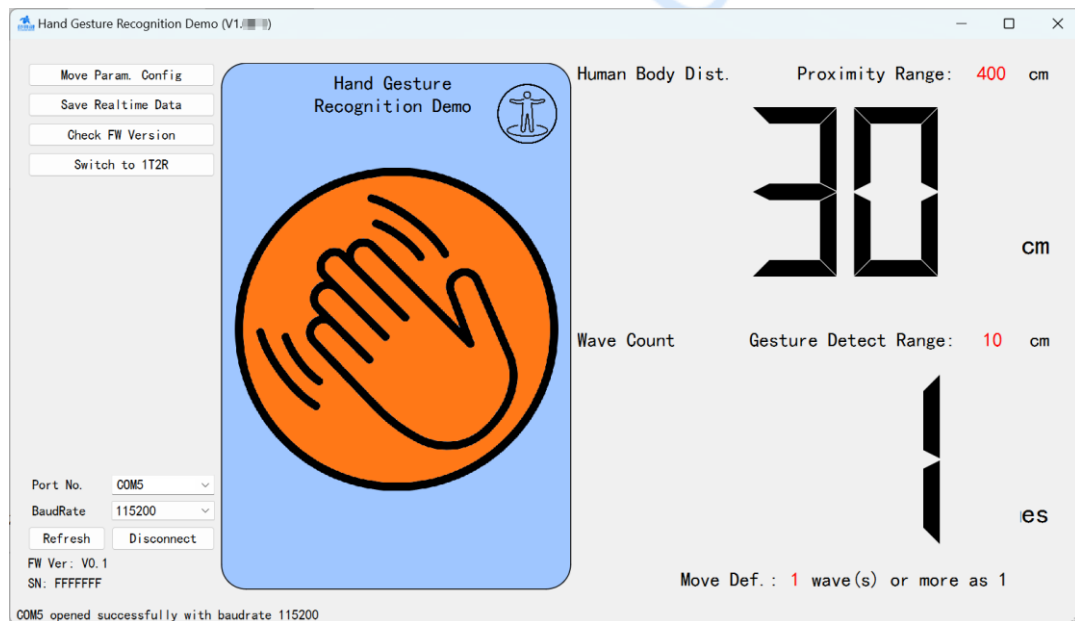

Figure 5-4 Tool interface when human presence and wave gestures are detected
- Right panel shows wave counts within recognition time window (see Figure 5-4)